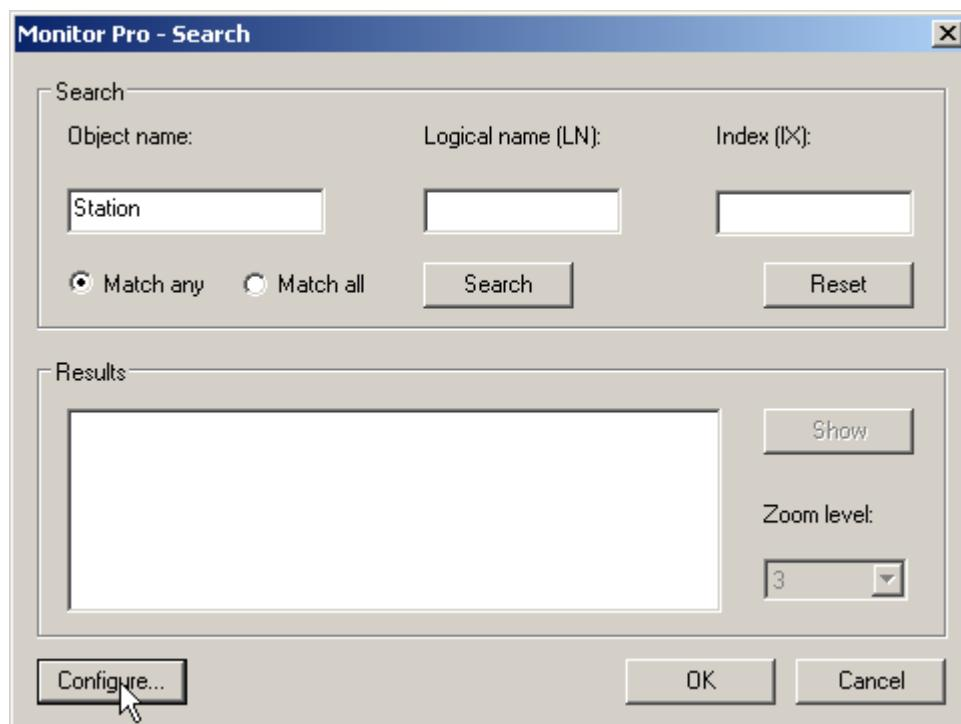

Figure 207: Process Display Search Dialog
2. Click the **Configure...** button, see Figure 207.
3. Set the configuration in the **Customize Search** dialog, see Figure 207. The following options are available: